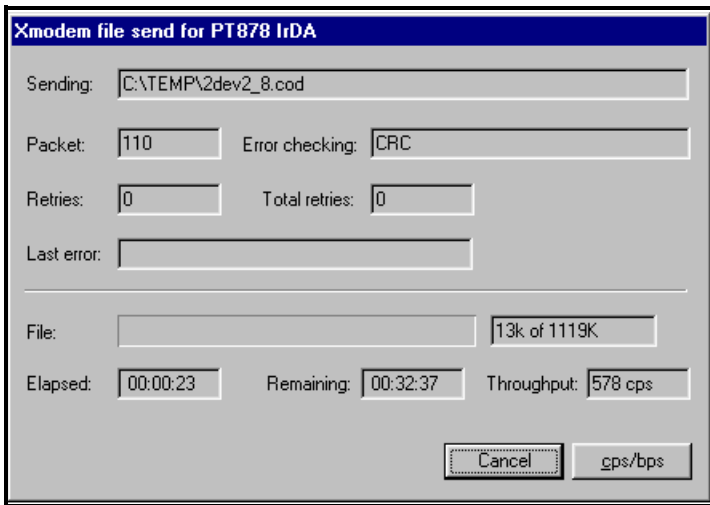

Figure 71: File Transmission Window
5. Click *Send*. For a successful transfer, the PC window appears similar to Figure 71, while the PM880 AC screen displays the program ID, size, load address and a count of blocks being loaded.